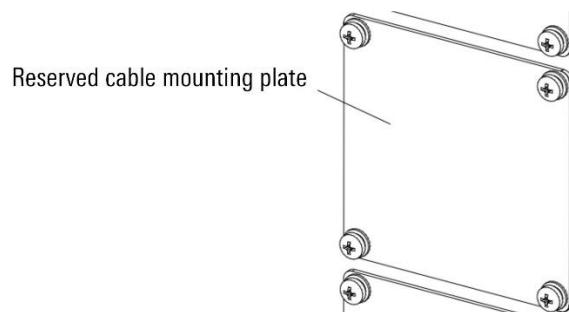
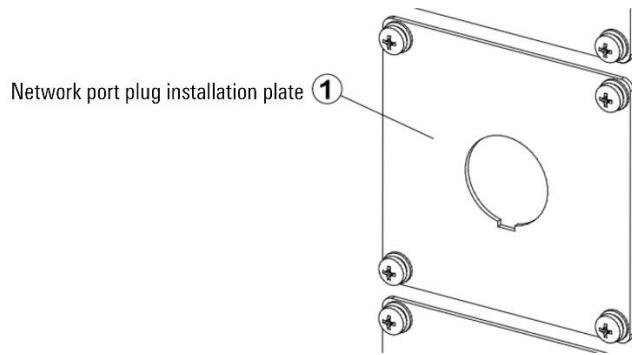

Figure 13-3 Reserved cable installation plate
Figure 13-4 Network port plug installation plate
Step1. Remove the original reserved cable mounting plate (refer to Figure 13-3) with a cross screwdriver, and install the ① network plug mounting plate (refer to Figure 13-4) on the cabinet.